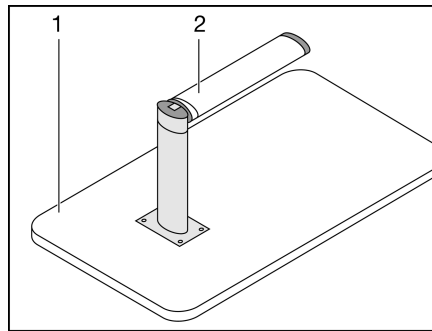

Fig. 55 Bed foundation
- Lift the front of the table-top (Fig. 55,1) by approx. 45°.
- Pull the lower part of the fold-out leg (Fig. 55,2) down and fold through 90°.